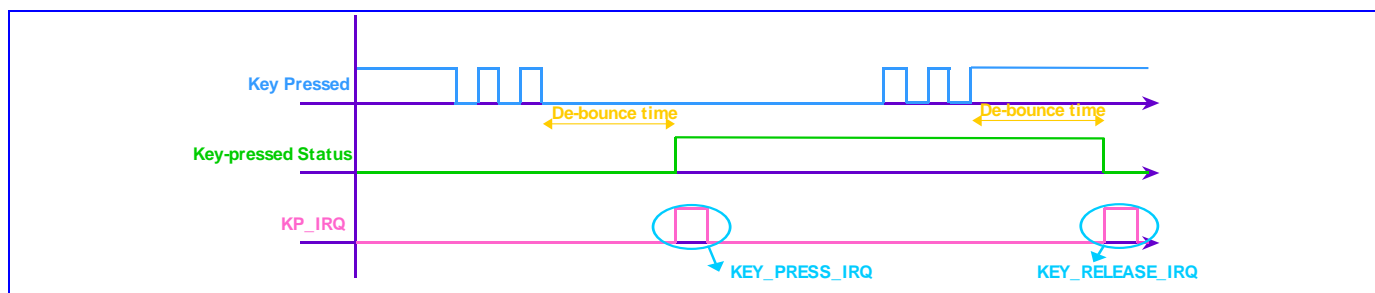
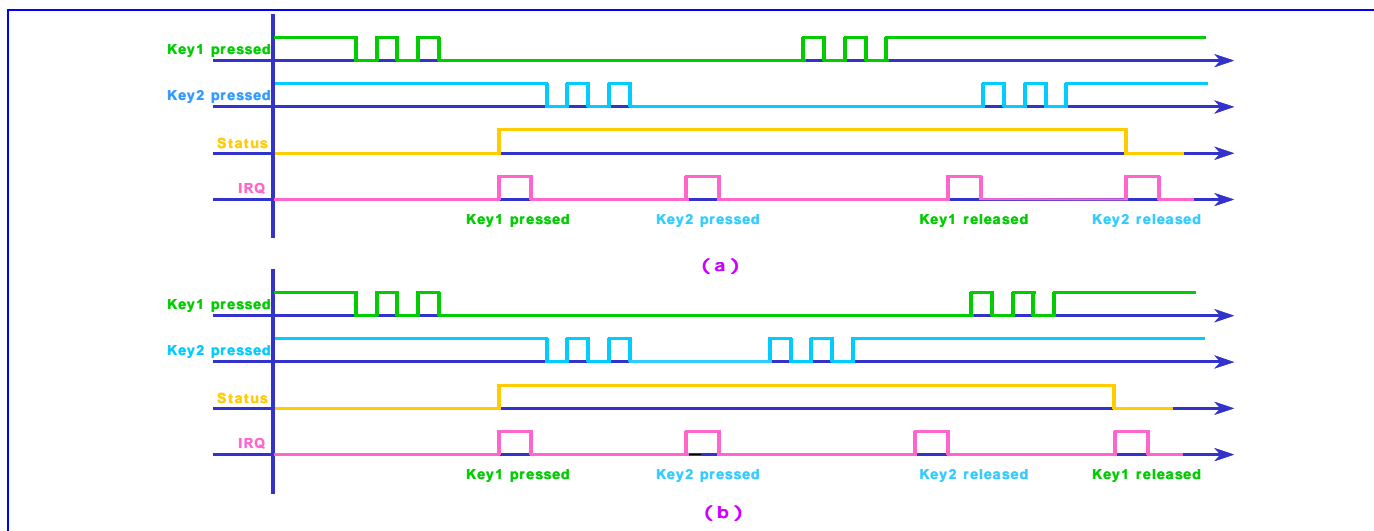

Fig. 2. One key pressed with de-bounce mechanism denoted
Fig. 3. (a) Two keys pressed, case 1 (b) Two keys pressed, case 2
This keypad can detect one or two key-pressed simultaneously with any combination. Fig. 2 shows one key pressed condition. Fig. 3 (a) and Fig. 3 (b) illustrate two keys pressed cases. Since the key press detection depends on the HIGH or LOW level of the external keypad interface, if keys are pressed at the same time and there exists a key that is on the same column and the same row with the other keys, the pressed key cannot be correctly decoded. For example, if there are three key presses: key1 = (x1, y1), key2 = (x2, y2), and key3 = (x1, y2), then both key3 and key4 = (x2, y1) are detected, and therefore they cannot be distinguished correctly. Hence, the keypad can detect only one or two keys pressed simultaneously at any combination. More than two keys pressed simultaneously in a specific pattern retrieve the wrong information.